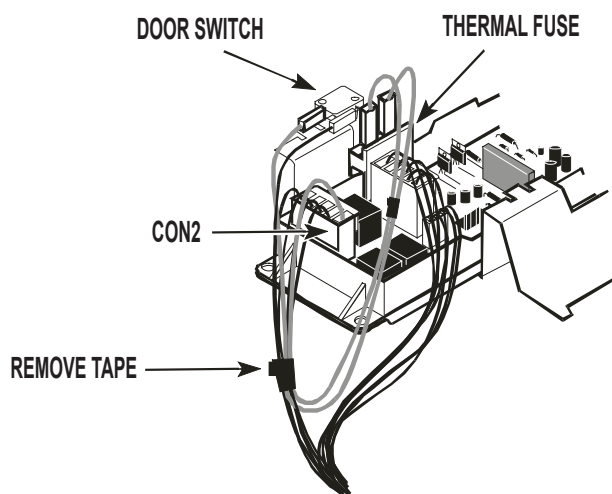

FIGURE 1
3. Locate the control board and fuse. The fuse is located in the upper left-hand corner of the board assembly. The two tan wires from the fuse are connected to the door switch and to terminal P8 on connector CON2. See *Figure 1*.
4. Remove the tape that holds the tan wires to the main harness. See *Figure 1*.